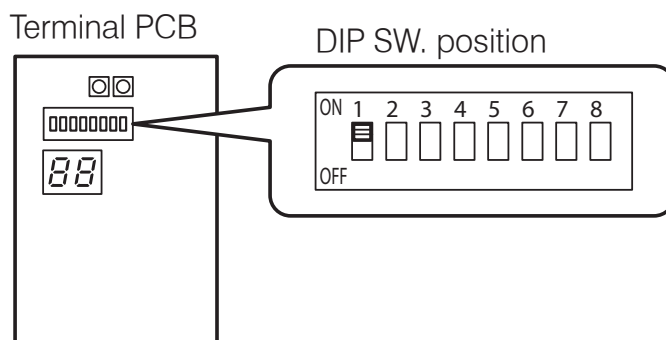

Figure 3-8: Anti-freeze function setting
- Set DIP SW1 to OFF (down position). Refer to Figure 3-8.